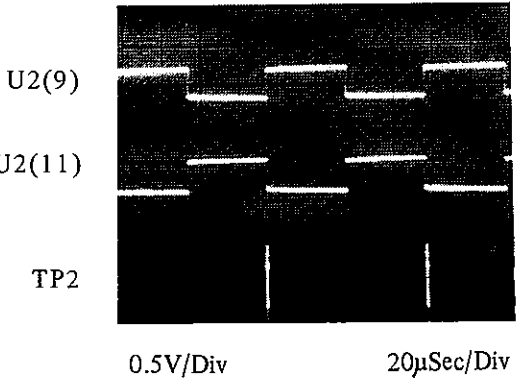

Figure A4-3 Generation of Narrow Pulses
A4-23 The delay line formed by L1, L2 and C7 delays the input pulse at U2(9) with respect to the pulse at U2(11). The resulting output from U2 is a narrow pulse, the width of which is equal to the delay time of the delay line. Figure A4-3 shows the relationship between unmodulated input and output pulses (TL1 removed). During normal operation, when TL1 is in circuit, the narrow pulses applied to drivers Q1 and Q2 are frequency modulated.